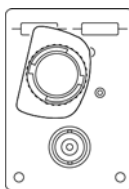

Figure 18 Signal to +Input
- 4 Connect the input of the probe to the test board in the position shown in the Figure 18.